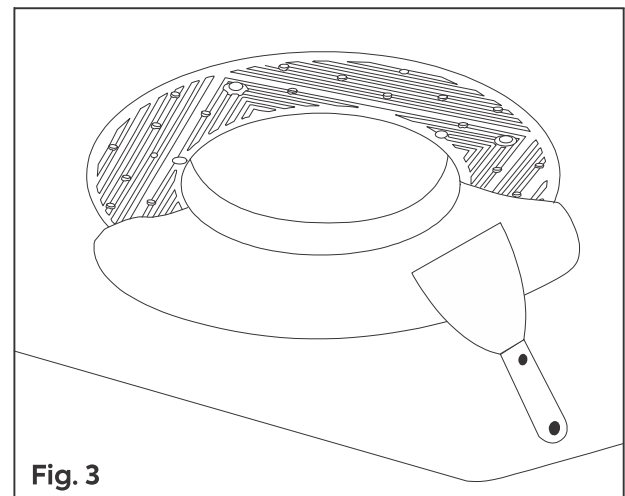

Fig. 3
Step 3: Ensure the provided hole cover is secured to the spackle frame to block debris and other material from entering the ceiling cavity. Apply joint compound over the spackle frame. Once the joint compound is smooth and has cured, complete remaining decorative ceiling work. After ceiling work is complete, remove the hole cover **Fig. 3**.